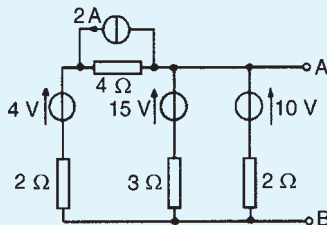

Figure 13.79
4. Determine, by successive conversions between Thévenin and Norton equivalent networks, a Thévenin equivalent circuit for terminals AB of Fig. 13.79. Hence determine the current flowing in a  $6 \Omega$  resistor connected between A and B.